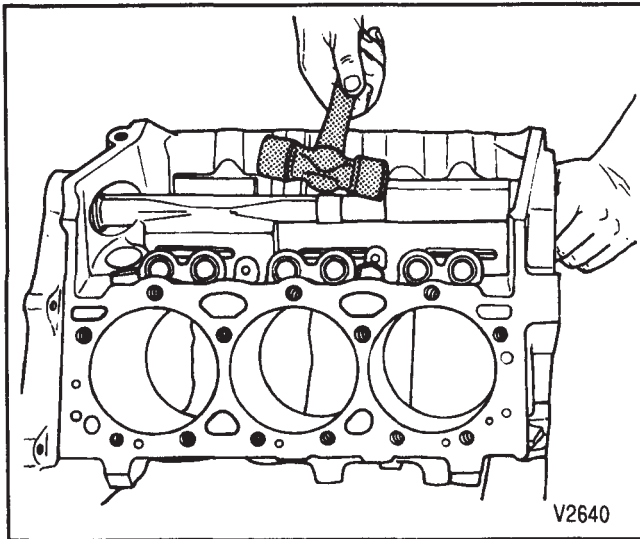

Figure 32—Removing The Balance Shaft
26. Balance shaft and front bearing using a soft faced hammer (figure 32).